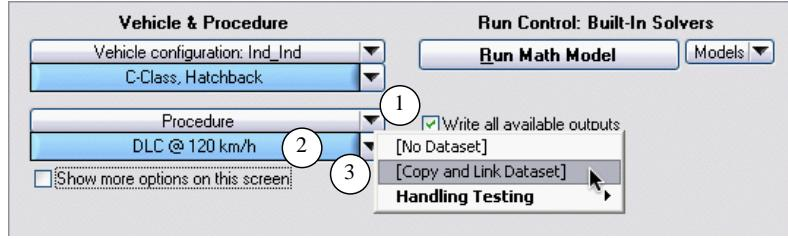

Figure 18. Use the **Copy and Link Dataset** command to copy the existing dataset.
3. Use the drop-down dataset selector ③ (under **Procedure**) and choose the option to **Copy and Link Dataset** (Figure 18).